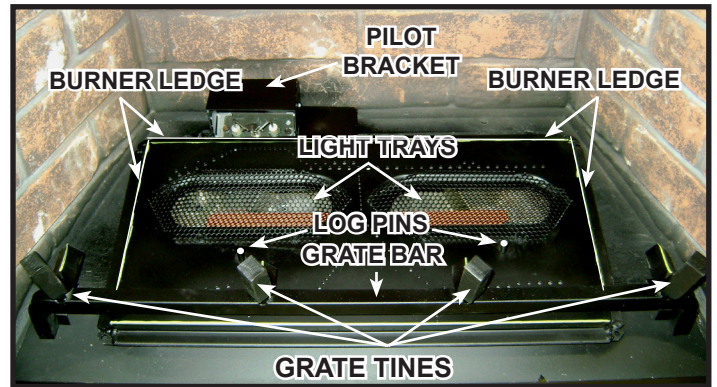
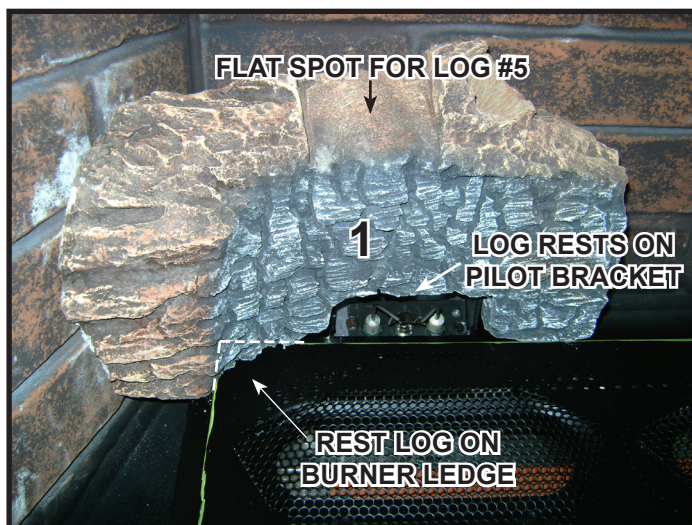

Figure 2. Reference Points
Figure 3. Log #1
**Log #1 (SRV2201-702):** See Figure 2 for additional references. Position Log #1 as shown in Figure 3. Rest the left and right ends of Log #1 on the burner ledge. The pilot bracket will support the center of the log.
**Log #2 (SRV2201-701):** See Figure 2 for additional references. Position Log #2 as shown in Figure 4. Mate Log #2 with the right corner of the burner as shown. Pull the log forward and to the left until it locks into position.